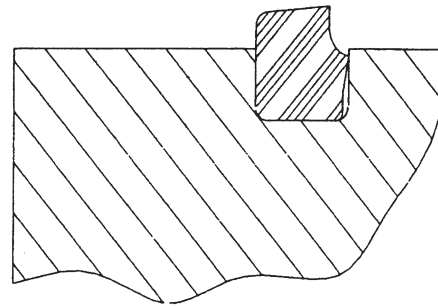
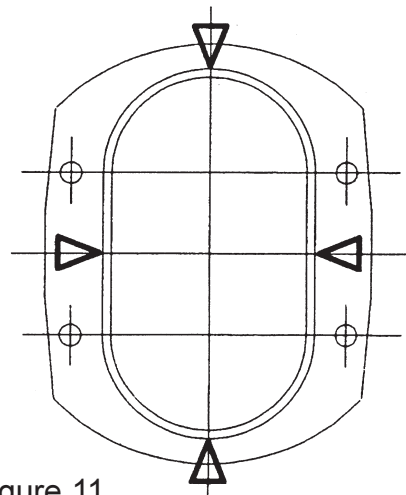

Figure 10
Figure 11
6.01 END COVER (see Figure 10 and 11)
- a) 55 Series - Fit end cover joint ring (66) in end case as Figure 10. Press in, in 4 places first, see Figure 11, then press in the rest to avoid forming loops.